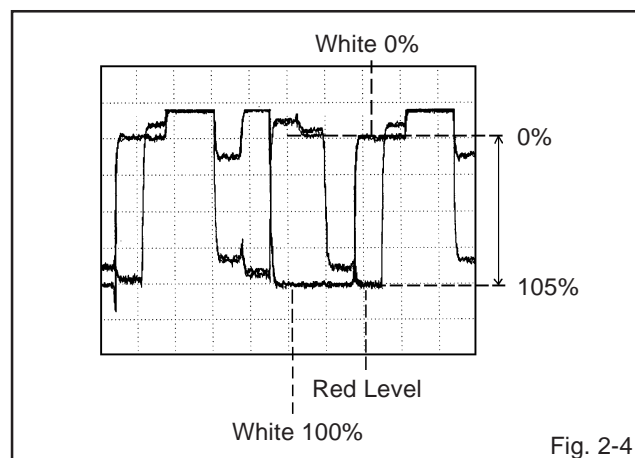

Fig. 2-4
7. Press the VOL. UP/DOWN button on the remote control until the red color level is adjusted to $105 \pm 5\%$ of the white level. (**Refer to Fig. 2-4**)